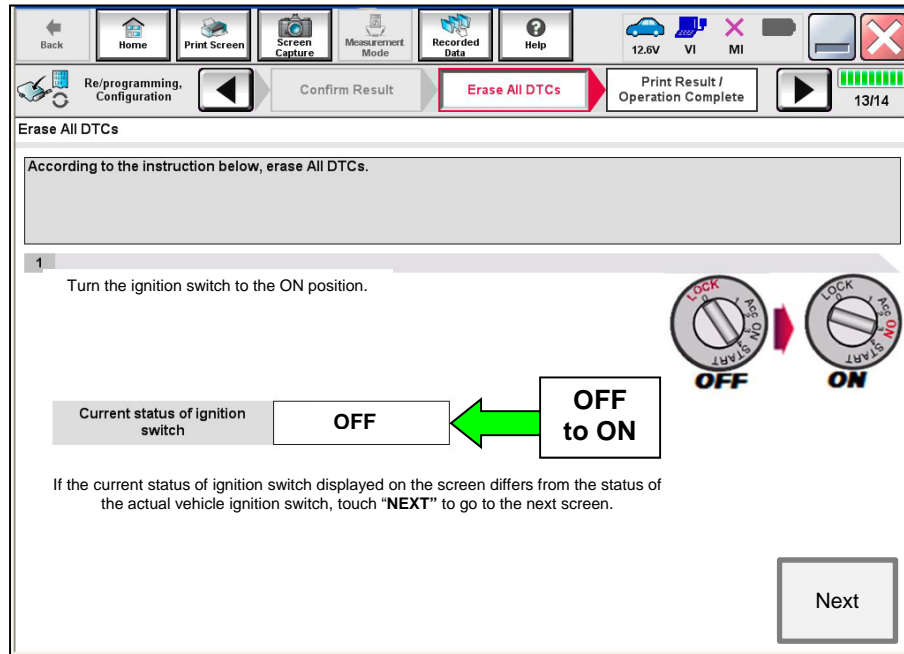

Figure 20
b. Wait one (1) minute after turning the ignition **OFF**.
- The screen in Figure 20 will read ON after pressing the power switch twice.